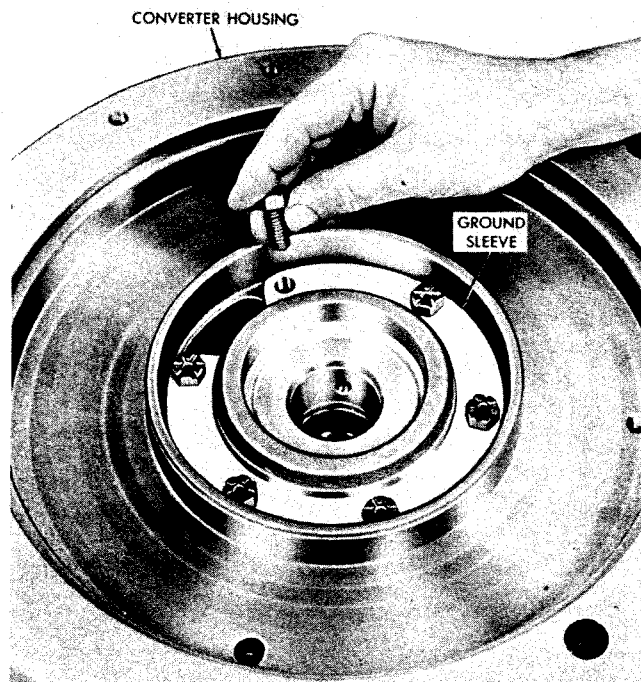

Fig. 6-15. Installing converter ground sleeve bolts 52426
(1) If converter ground sleeve 20 was removed, chill the sleeve in dry ice for one or two hours and install into the rear of converter housing 34. Secure the ground sleeve with six bolts (fig. 6-15). Install two seal rings 19 (one on current models — either groove) into ground sleeve 20.